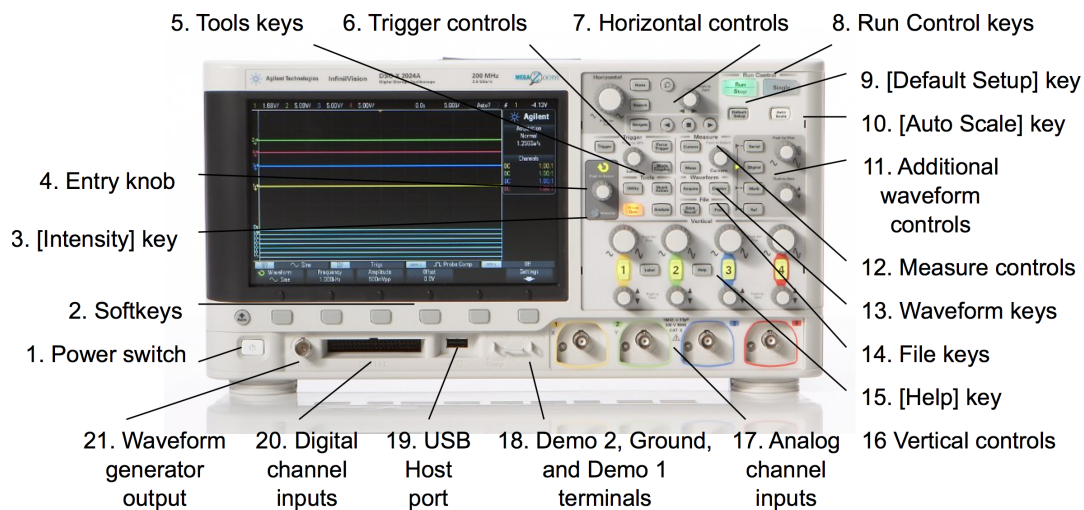

Figure 7: InfiniiVision 2000 X-Series Oscilloscope Front Panel (similar layout to our 3000 series)
- (c) Turn the logic analyzer on. See Figure 7.